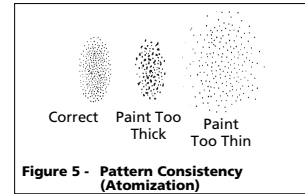

Figure 5 - Pattern Consistency (Atomization)
4. With gun 8" away from surface, trigger a short, one second burst while turning fluid control knob counterclockwise. Observe the spray pattern on the target and adjust the fluid control knob until the desired pattern (atomization) is obtained (See Figure 5).